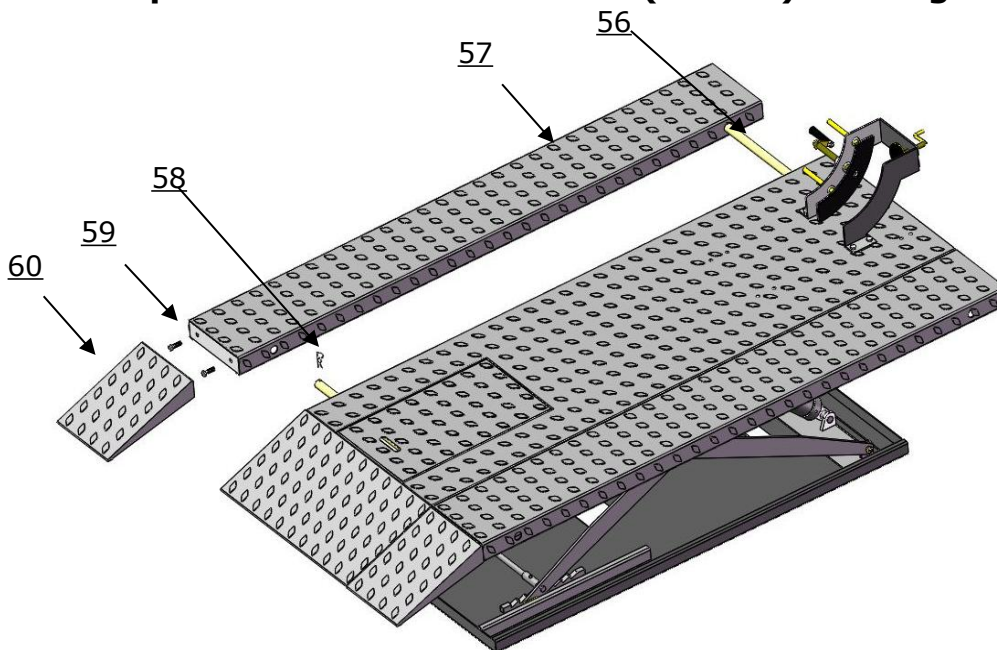

Fig.12
D. Install Optional Width Extension Kit(MC001). See Fig.12